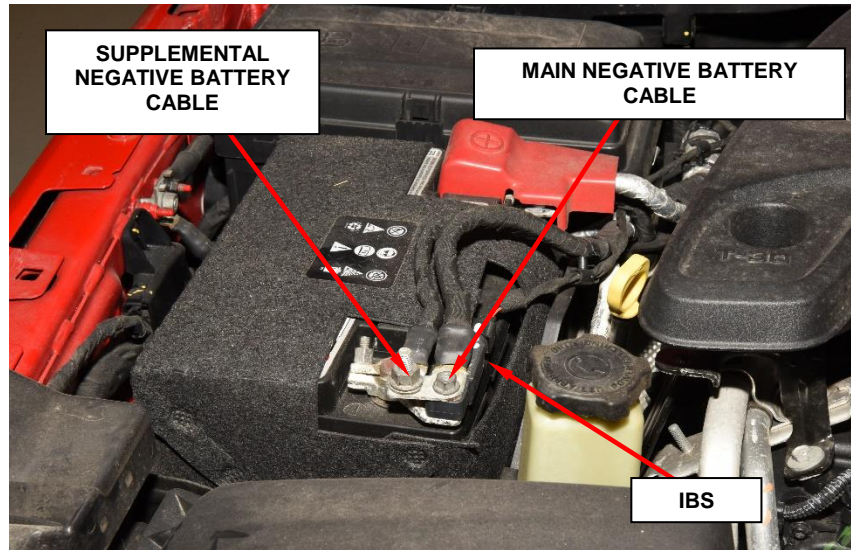

Figure 5 – Battery Negative Cable(s)
1. a) Remove the nut for the supplemental battery negative cable and isolate the cable. (Figure 5).
b) Remove the nut for the main negative cable and isolate the cable (Figure 5).
c) Disconnect the IBS (Figure 5).